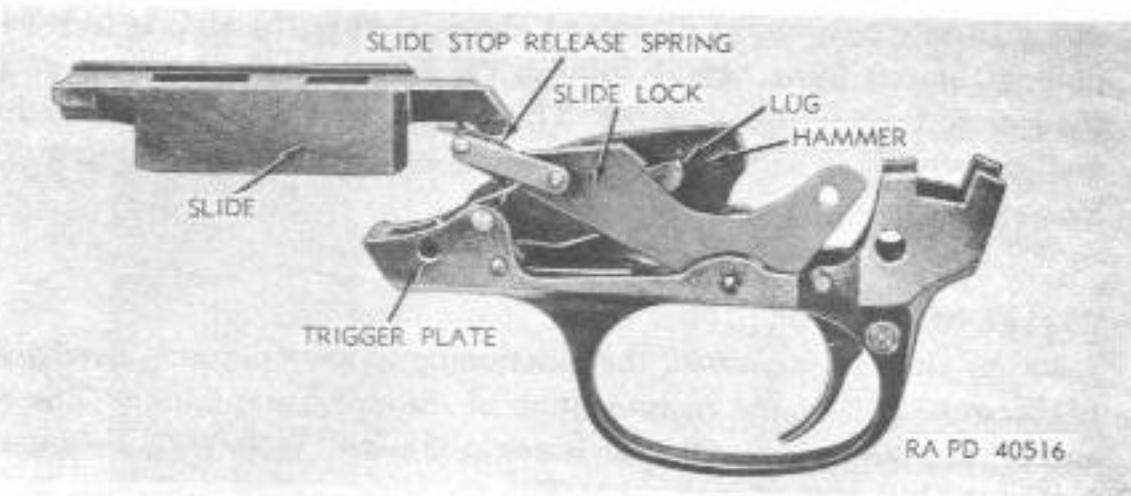

Figure 43—Slide and Trigger Plate Groups—Slide Riding Over Lock—Hammer Locked—Stevens Shotgun M620A
(e) **Slide lock.** The slide lock (figs. 43 and 44) of the M620A, M520, and M620 Guns are practically the same. In the M620A and M620 Guns, the slide lock spring is of the torsion type and mounted on the trigger pin and bears down upon the rear end of the slide lock. In the M520 Gun, this spring is of the safetypin type and seats in a hole in the top of the left wall of the trigger plate, and bears upward on the rear pin of the slide lock link positioned in the forward end of the slide lock.
c. When the slide lock (figs. 43 and 44) is disengaged from the slide either by manual pressure or by the descending hammer (par. 20 e (9)), and the operating handle retracted, the slide moves to the rear, riding over the forward end of the lock. As the slide returns on the forward